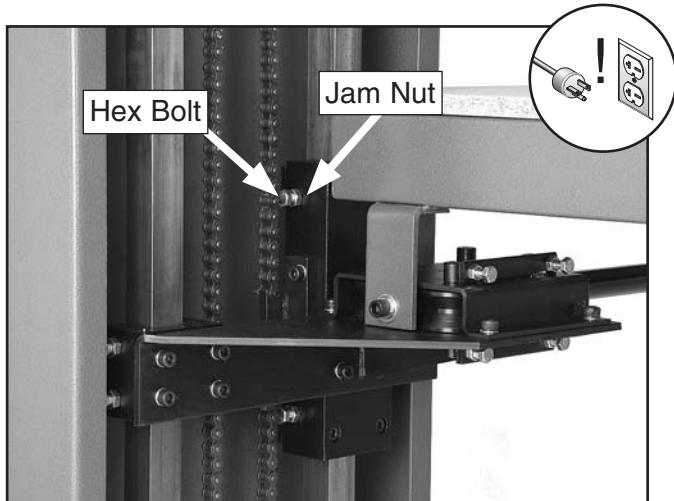

Figure 50. Wear pin adjustment.
2. Loosen the jam nut shown in (**Figure 50**).